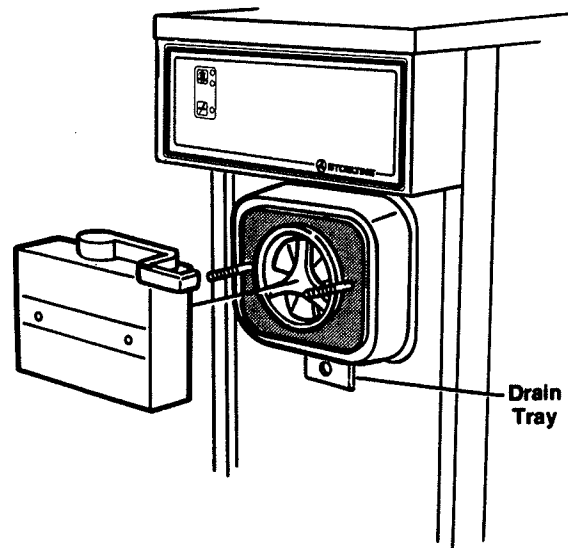

Figure 25. Front Door and Drain Tray Removal
- B. Remove the front door assembly by pulling front door straight out. (See Fig. 25.) Remove gray seal from front door studs. Remove drain tray.